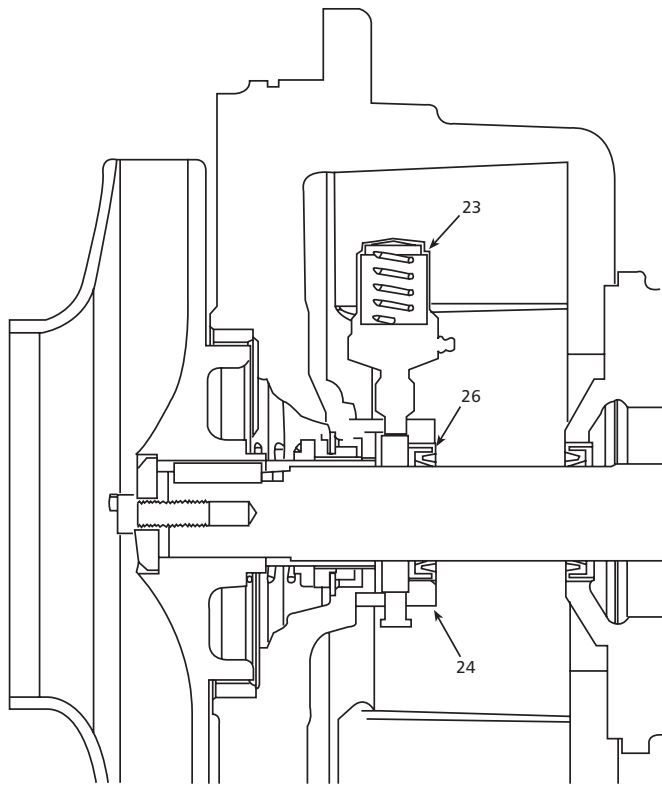

Figure 15
- The grease gland (24) will have the letters "G" and "O" stamped on the outside diameter and have two 1/8" NPT connections for mounting a grease feeder or oiler.
2. For grease feed applications, the grease gland is assembled with the “G” stamp in the 12 o’ clock position. The grease feeder (23) will mount in the grease gland at a 30 degree angle from the horizontal. This is done to gain access to the grease fitting located on the grease feeder. The lip seal (26) mounted in the grease gland will be assembled as shown in Figure 15.